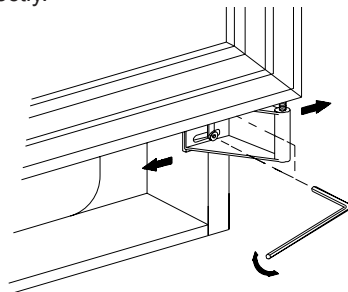

Fig. 2
See fig. 2
2. The top hinge is dismantled. See fig. 2.